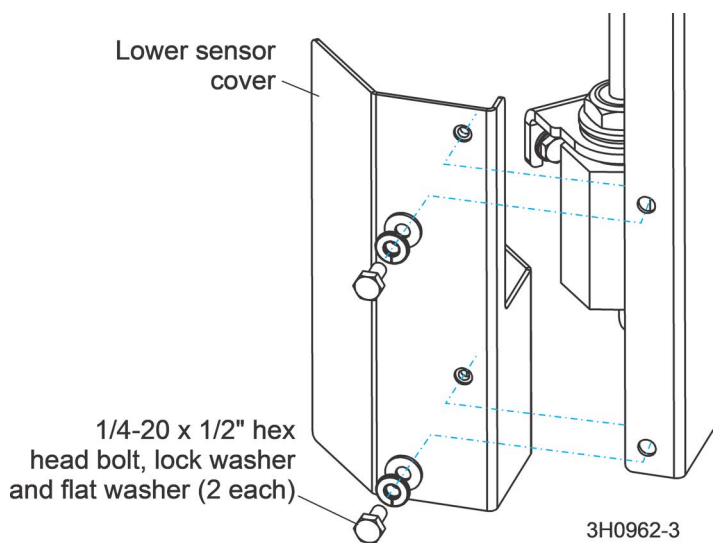

FIG. 1-8
28. Place the cover in position behind the holes and secure with two bolts, lock washers and flat washers provided. See Figure 1-8.